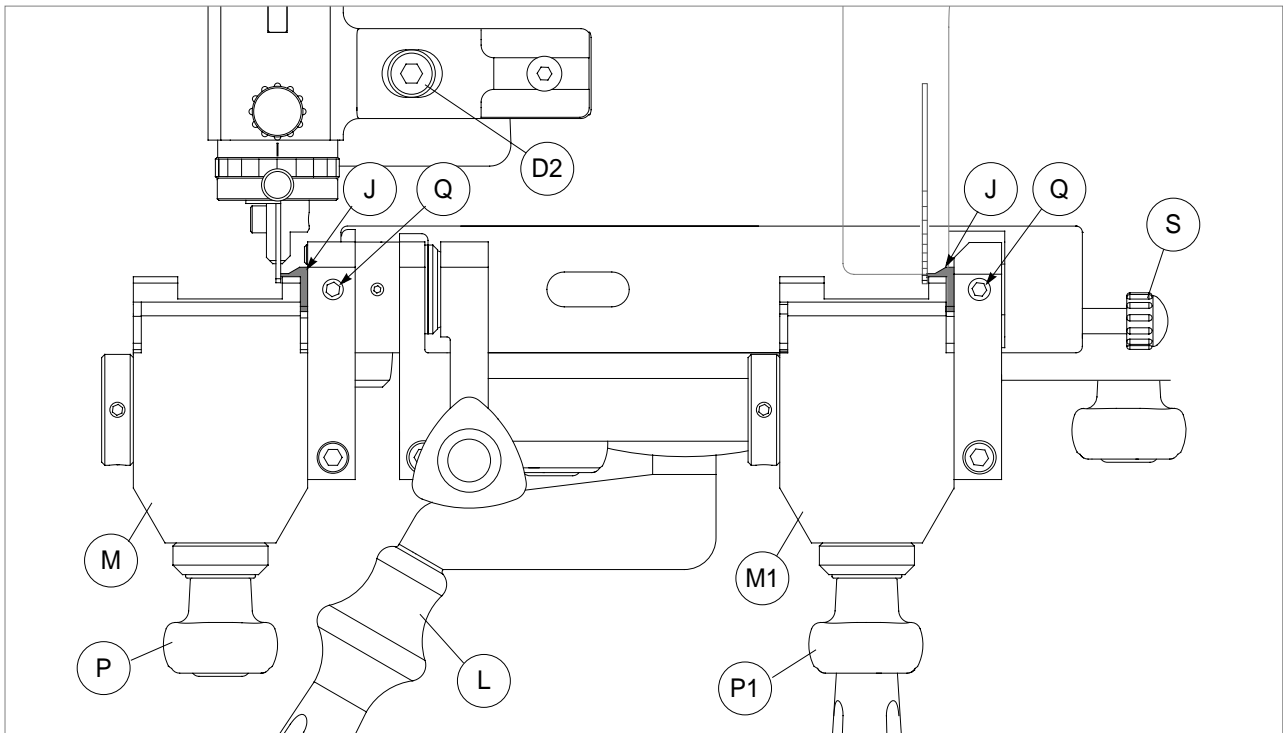

Fig. 15
- 1) Open clamps (M) and (M1) completely (fig. 15, page 12).
- 2) Unscrew the grub screws (Q) (fig. 15), remove the key stops and replace them.
- 3) Tighten the grub screws (Q).
2) Use the knob (S) to lock the right-hand clamp in a horizontal position.
3) Use the handles (P) and (P1) to close the clamps.
5) Use the lever (L) to raise the carriage and take the stops (J) for double bit keys up against the right-hand side of the tracer point and cutter (fig. 15).